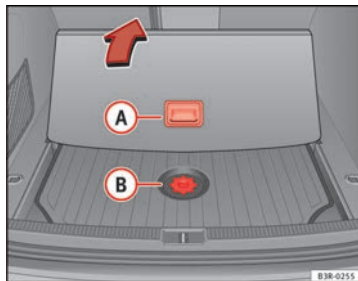

Fig. 193 Access to the toolbox and jack
- Take hold of handle **A** and fold back the floor panel in the luggage compartment ⇒ Fig. 193.
- Unscrew the attachment screw from cover **B** ⇒ Fig. 193.